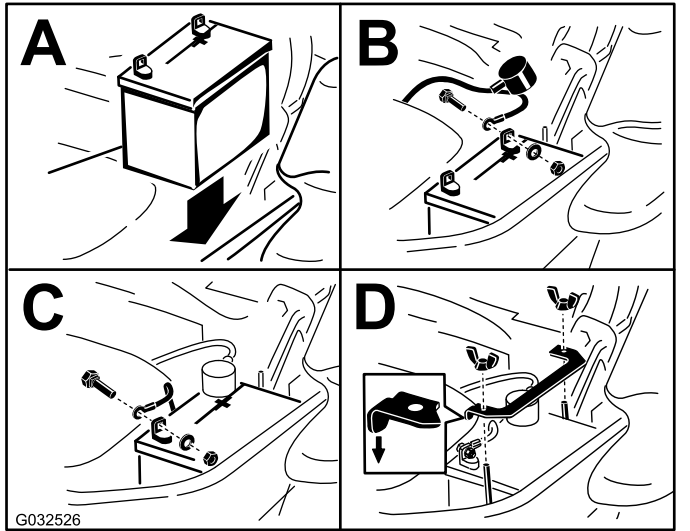

Figure 58
**Note:** Position the battery in the tray with the terminal posts opposite from the hydraulic tank (Figure 58).